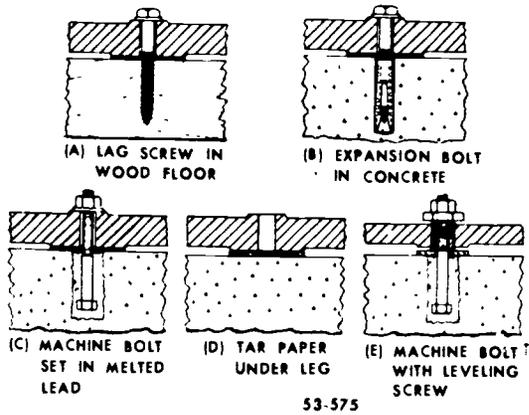

Figure 147. Fastening devices for securing machines.
**17-8. Securing.** Most machines must be fastened to the floor. Some rest on a base or on legs. Figure 147 shows various methods of fastening a machine to a floor. You can use lag screws in concrete or wood. Drill holes in the concrete, and place metal shields or pour molten lead in the holes. Then tighten the lag screws in the holes. If the floor is wood, screw the lag screw directly into the wood. After securing the machine to the floor, check for levelness again, and correct as required.